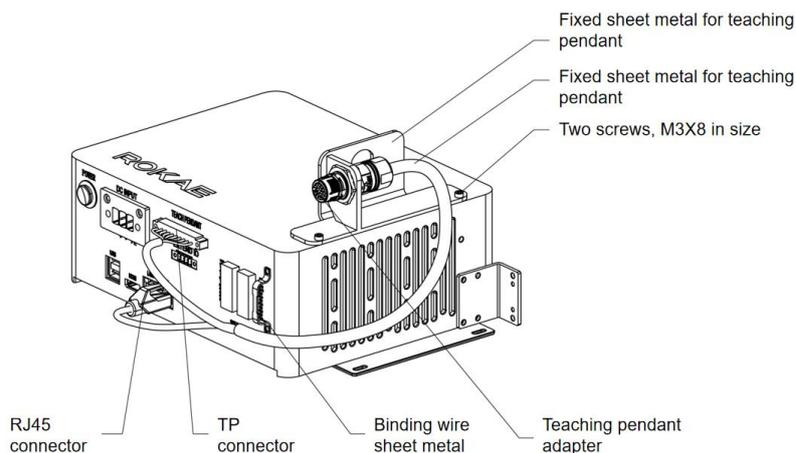
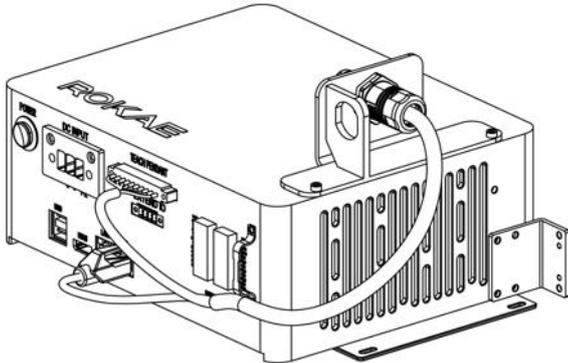

Figure 5-12 Installing the teaching pendant adapter harness
Figure 5-14 Left facing installation diagram
(3) Thread the connector of the teaching pendant adapter through the sheet metal and tighten the nut of the teaching pendant adapter with an adjustable wrench to secure the teaching pendant connector onto the sheet metal. As shown in Figure 5-12.
(4) The xPad connector and RJ45 connector of the teaching tool adapter cable are respectively connected to the TEACH PENDANT interface (original xPad interface) and LAN2 interface of the control cabinet (pay attention to the interface and do not plug it incorrectly), and the wiring harness of the plug accessory is fixed to the wire binding sheet metal next to the IO interface of the control cabinet with zip ties. The final effect is shown in Figure 5-12.
(5) Connect the cable connector on the teaching pendant to the teaching pendant adapter shown in Figure 5-12 and lock it to use the teaching pendant normally. The schematic diagram of the teaching pendant connection is shown in the following figure.
This solution is only intended for users who have an optional teaching pendant adapter kit. The teaching pendant adapter plug provides two installation methods, namely facing forward and facing left. Figure 5-12 shows the forward installation method, which is also the default installation method for the teaching pendant adapter kit. Refer to Figure 5-14 for the installation method facing left.